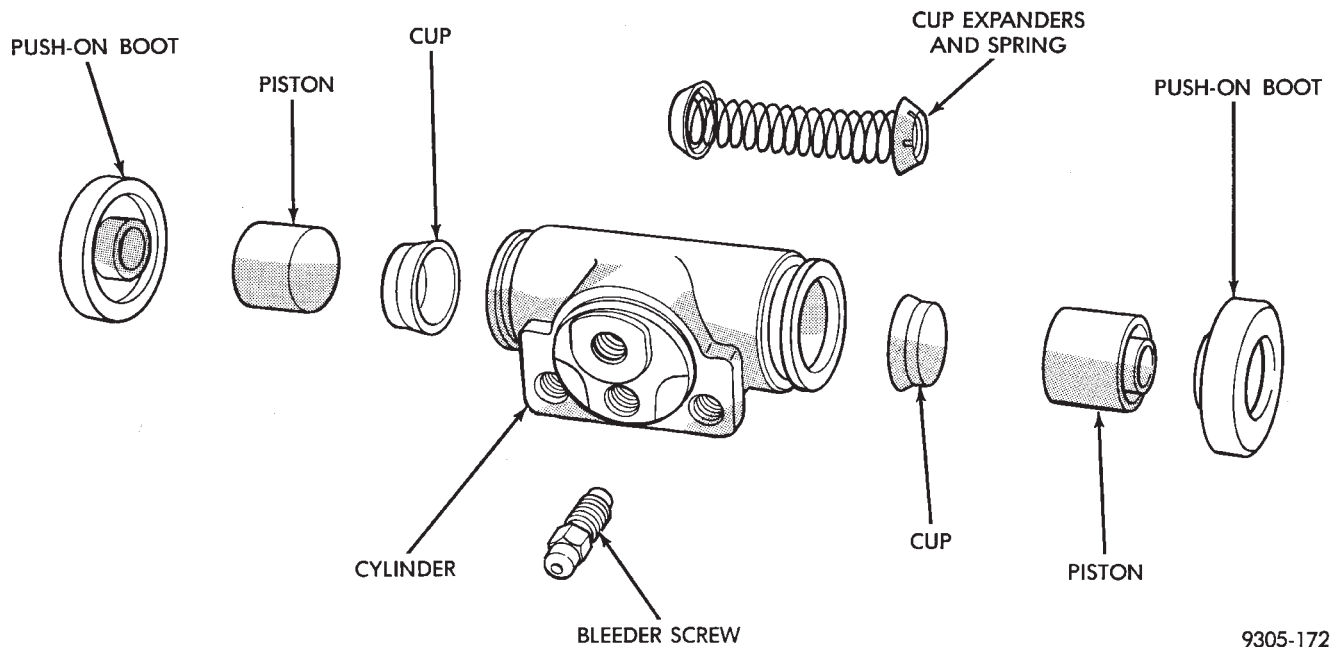

Fig. 177 Rear Wheel Cylinder (Exploded View)
(1) Pry boots away from cylinders and remove (Fig. 177).
(2) Press **IN** on one piston to force out opposite piston, cup and spring (Fig. 177). Then using a soft tool such as a dowel rod, press out the cup and piston that remain in the wheel cylinder.
(3) Wash wheel cylinder, pistons, and spring (Fig. 177) in clean brake fluid or alcohol; **(DO NOT USE ANY PETROLEUM BASE SOLVENTS)** clean thoroughly and blow dry with compressed air. Inspect cylinder bore and piston for scoring and pitting. (Do not use a rag as lint from the rag will stick to bore surfaces.)
(4) Wheel cylinder bores and pistons that are badly scored or pitted should be replaced. Cylinder walls that have light scratches, or show signs of corrosion, can usually be cleaned with crocus cloth, using a circular motion. Black stains on the cylinder walls are caused by piston cups and will not impair operation of cylinder.
(1) Coat cylinder bore with clean brake fluid.
(2) Lightly coat the sealing lip and outer surfaces of the wheel cylinder cups with Mopar Protect-A-Cup Lubricant.
(3) Install expansion spring with cup expanders in cylinder. Install cups in each end of cylinder with open end of cups facing each other (Fig. 177).
(4) Install piston in each end of cylinder having the flat face of each piston contacting the flat face of each cup, already installed (Fig. 177).
(5) Install a boot over each end of cylinder (Fig. 177). **Be careful not to damage boot during installation.**